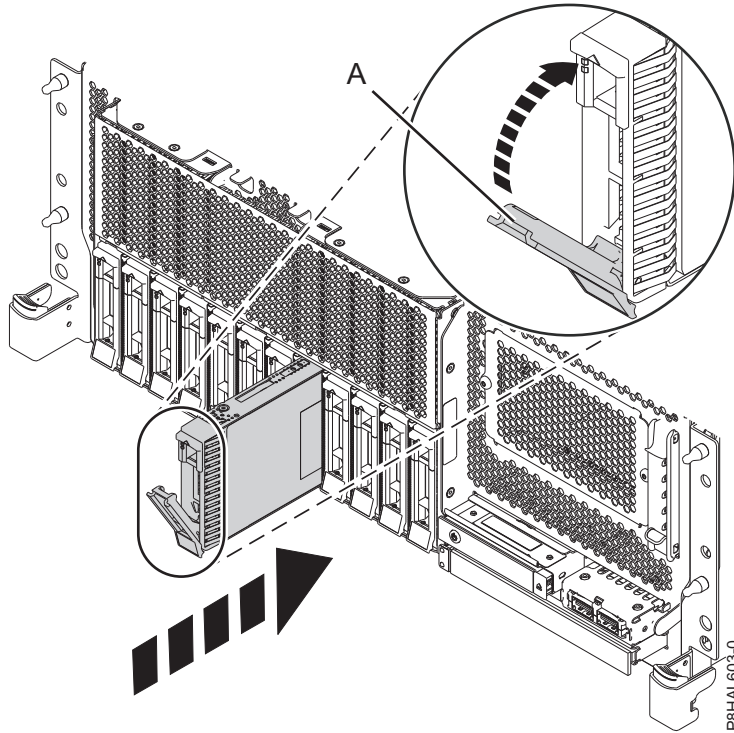

Figure 6. Installing a disk drive in a rack-mounted base function system
3. Unlock the drive bay handle (A) by pressing it and pulling it out toward you. If the handle is not all the way out, the drive does not slide into the system. See Figure 6 on page 9, Figure 7 on page 9, Figure 8 on page 10, and Figure 9 on page 11.
5. Slide the drive all the way into the system, and push the drive bay handle (A) in until it locks, as shown in Figure 6 on page 9, Figure 7 on page 9, Figure 8 on page 10, and Figure 9 on page 11.